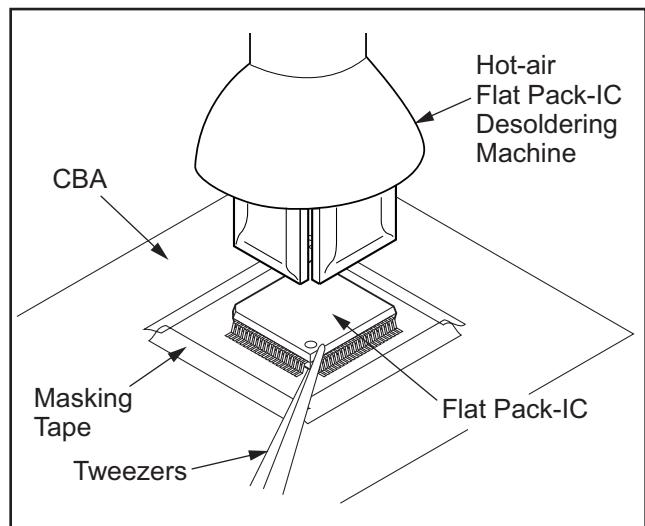

Fig.2
- (1) The Flat Pack-IC shape may differ by models. Use an appropriate hot-air flat pack-IC desoldering machine, whose shape matches that of the Flat Pack-IC.
(2) Do not supply hot air to the chip parts around the flat pack-IC for over 6 seconds because damage to the chip parts may occur. Put masking tape around the flat pack-IC to protect other parts from damage. (Fig. 2)
(3) The flat pack-IC on the CBA is affixed with glue, so be careful not to break or damage the foil of each pin or the solder lands under the IC when removing it.